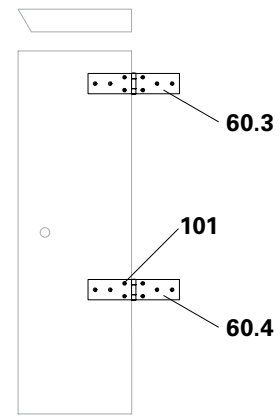

Fig. B3.03c
4. Fix the inner hinge **(60.3)** at a distance of 5 cm from the outer edge with screws **(101)**. (Fig. B3.03c)
5. Fix the outer hinge **(60.4)** at a distance of 25 cm from the outer edge with screws **(101)**. (Fig. B3.03c)